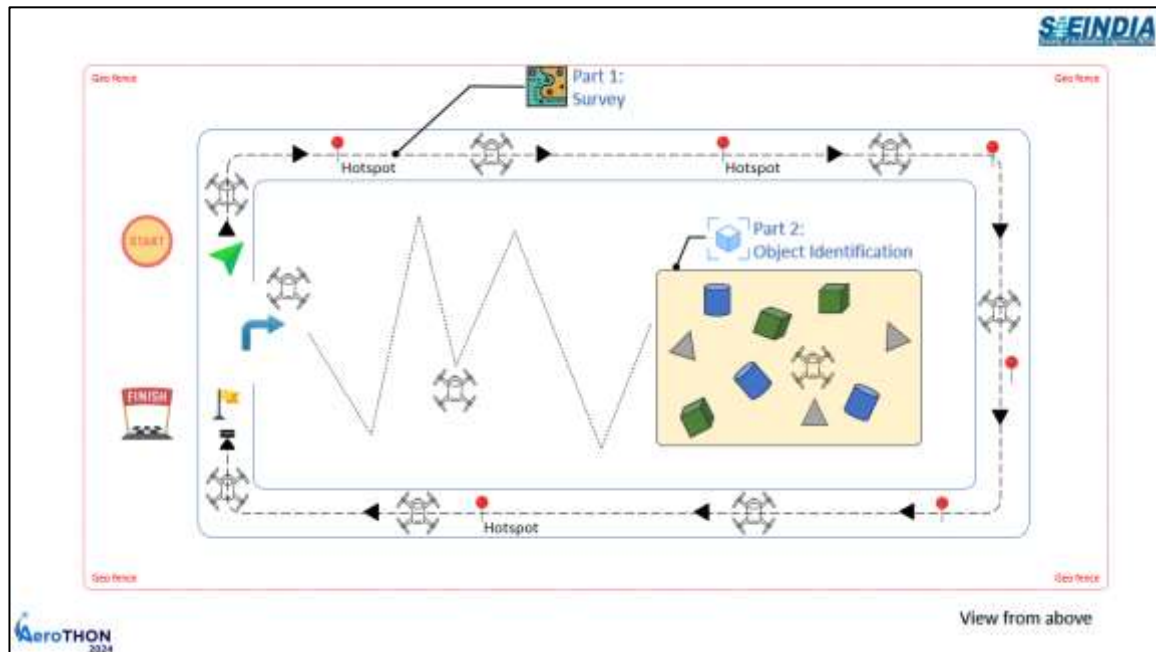

Figure 2: Flight Mission 1 – Manual - Mission Profile
- While the Figure 2 depicts the mission profile, actual conditions on the field may vary.